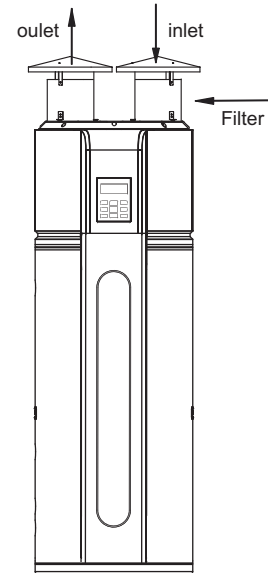

Fig.3-5
2) Filter needs to be installed at the air inlet position. (Fig.3-5)